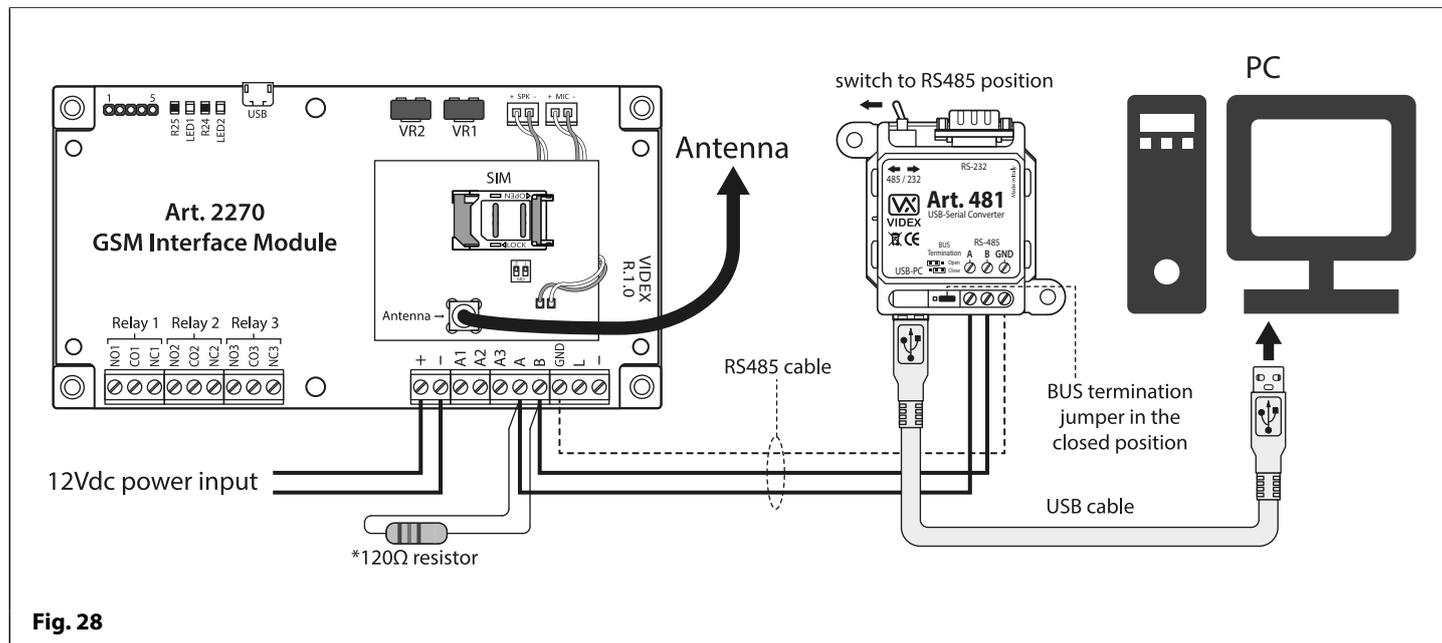

Fig. 28
The Art.2270 GSM module can also be connected using an RS485 bus connection via an RS485 to USB converter (Art.481) with a standard USB cable then connected directly to the PC, as shown in **Fig.28**.
* For end of line termination a 120 Ohm resistor must be fitted across the RS485 terminals A and B on the GSM module, as shown above in **Fig.28**.